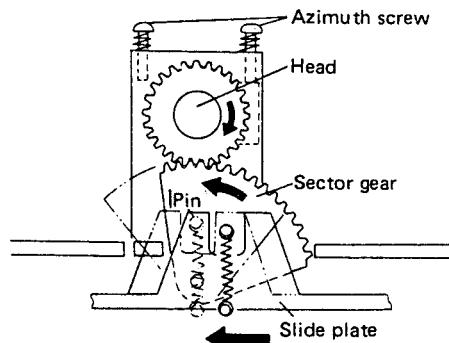

Fig. 1-23 Head rotation operation 1
- As the slide plate moves from right to left, the head rotates to the REV direction attitude. (Refer to Fig. 1-23)
As the slide plate moves from right to left in the direction operation (described above), the pin on the sector gear also is forced from right to left. This is shown in Fig. 1-23. As the sector gear pin goes past the center point, the force of the gear spring rotates the sector gear through approximately a 90° angle. This causes the head meshed to sector gear to rotate 180°, placing the unit in a REV state.